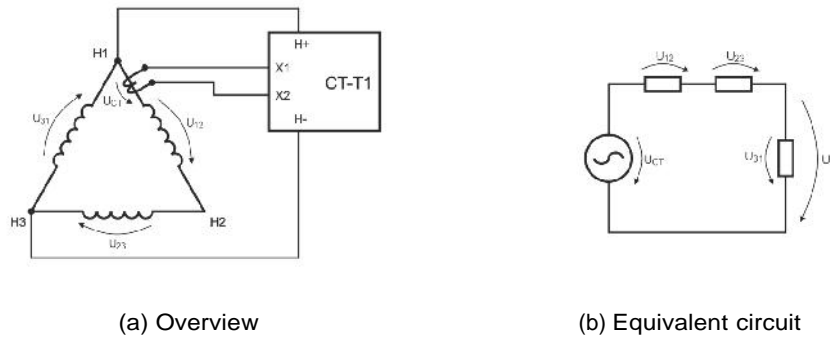

Figure 3.3: CT under test built into power transformer (TR factor 1/3)
- A turns ratio correction factor of  $1/3$  needs to be applied if the *H1-H2* cables of the CT-T1 are connected to an independent coil (Figure 3.3).